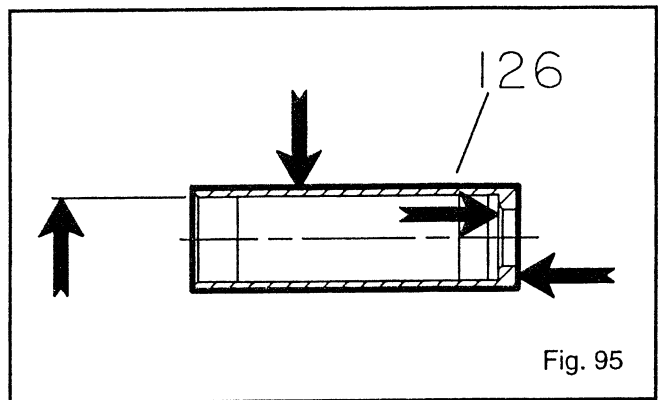

Fig. 95
3. Check shaft and sleeve (126) surface for grooves, pitting. Replace if any are found (Fig. 95).